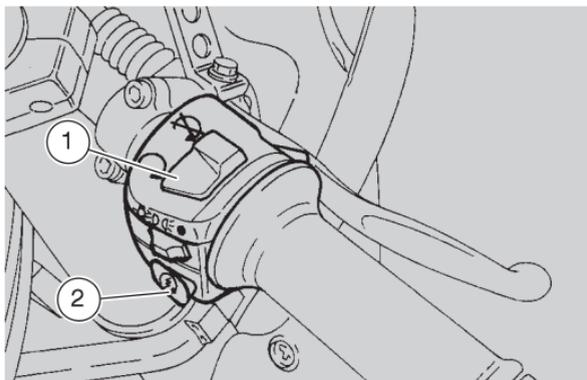

Fig. 23
- move the engine stop switch (1-Fig. 23) to position "O";